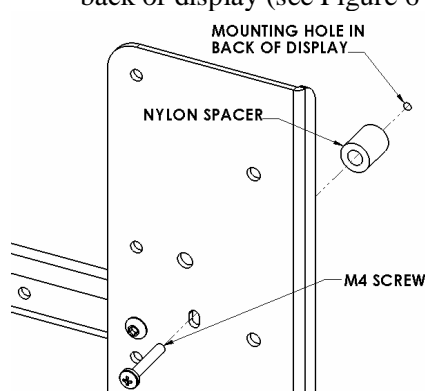
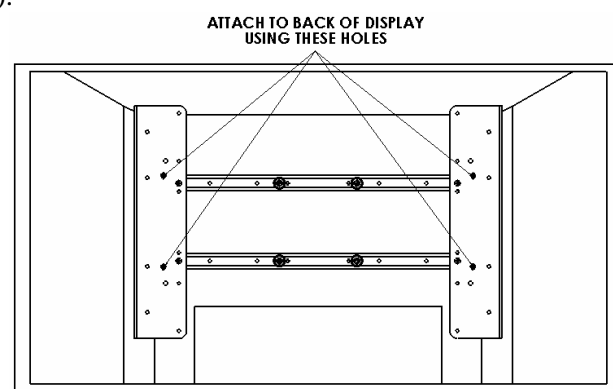

Figure 6
Figure 7
- Place Nylon spacers on mounting holes, aligning hole pattern on *side* brackets with pattern on back of display (see Figure 6 and Figure 7).